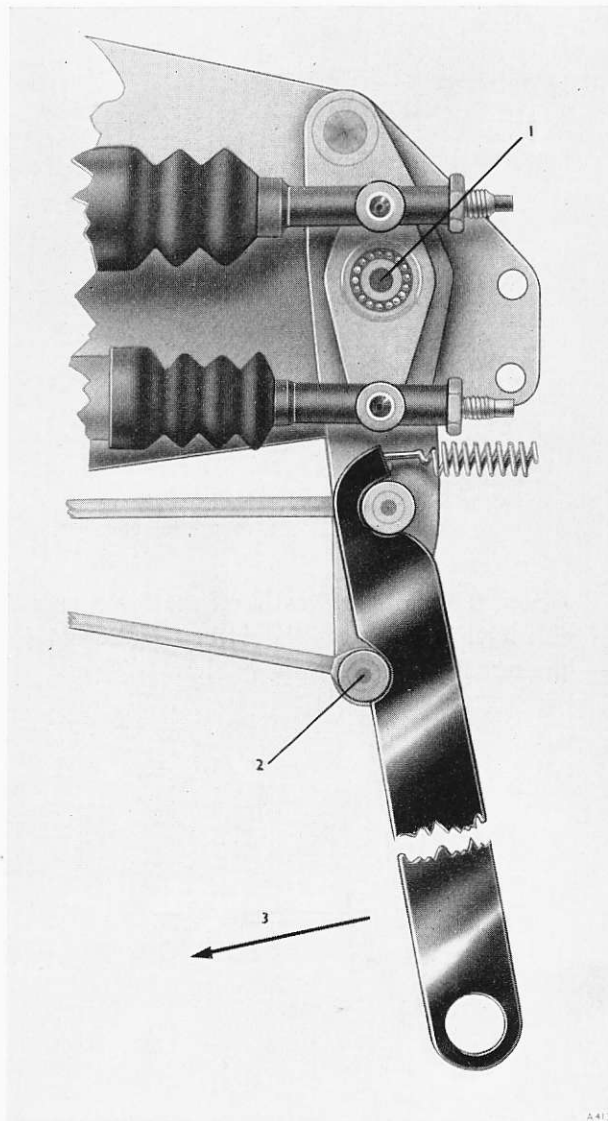

Fig. G5 Lever RH.417 in position
3. Attach a spring balance to the lever and operate the master cylinder with a pull of 100 lb. (45.3 kg.) as shown in Figure G5. Measure the length that the push rod has travelled from rest. In the rest position, the 'on-stop' bar should be 1.60 in. (4.064 cm.) from the edge of the master cylinder mounting bracket and the travel of the push rod with the 100 lb. (45.3 kg.) pull on lever RH.322 must not
Adjust the 'on-stop' bar so that it must travel 1.600 in. (4.064 cm.) before contacting the edge of the master cylinder support bracket (see Figs. G5 and G9).